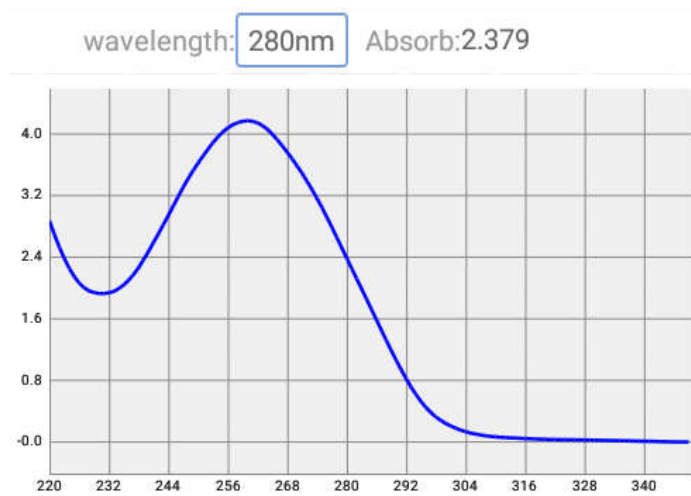

Fig 4.12 Protein detection curve
4) Click it to input the wavelength and then the absorbance of it will be displayed as Fig 4.12.